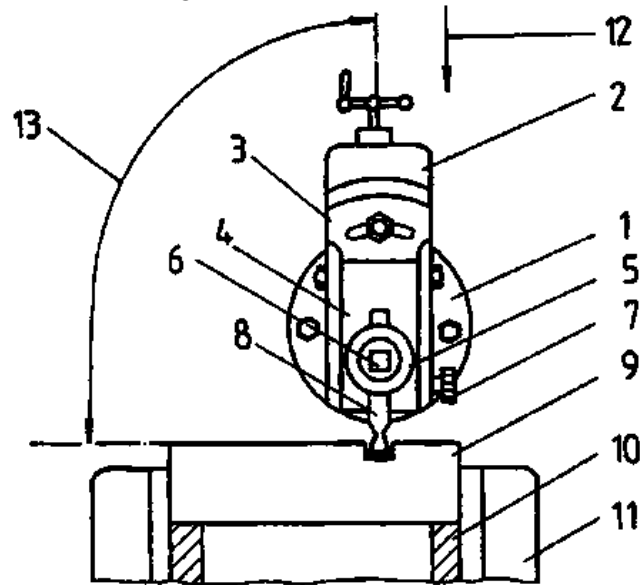

Figure 18. Tool slide in exactly vertical position
- Place the workpiece directly on the guideway of the vice (use parallels when the workpieces are flat - see Fig. 18) and tighten the vice.**
- Align the straight primary cutting edge exactly parallel to the workpiece or table surface (fig. 18).